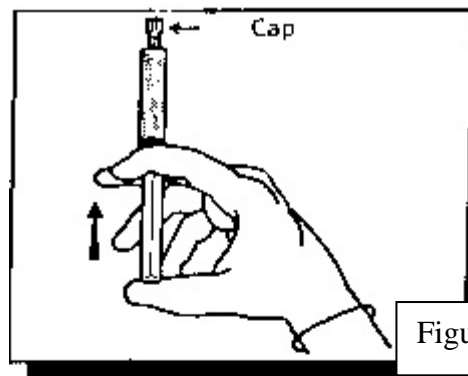

Figure 1
1. Hold the prefilled heparin syringe upward (figure 1).
2. **Do not remove the cap.** Press on the plunger (figure 1). **DO NOT** pull back on the plunger.